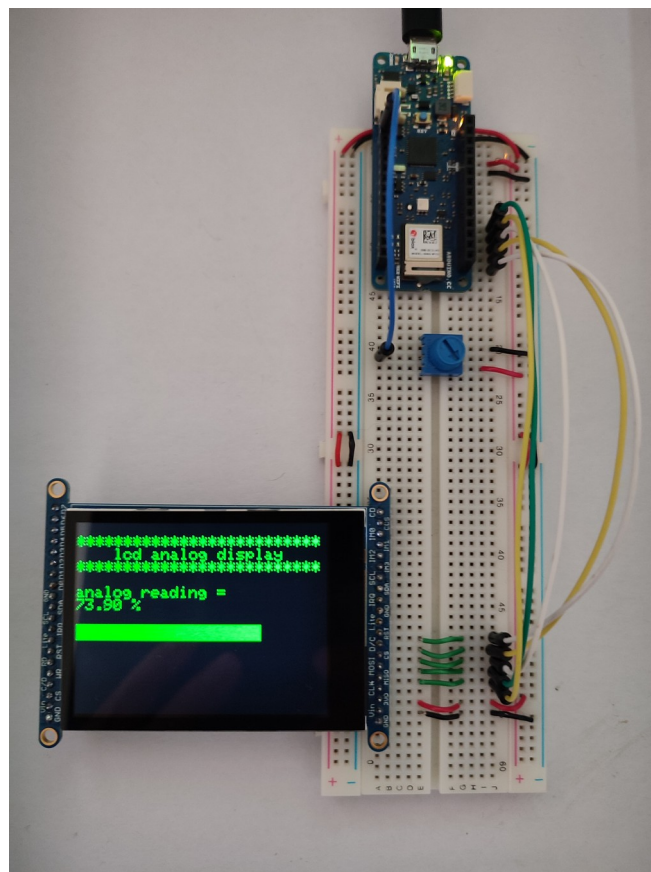

Figure 5 – An example bar graph display on the Arduino MKR WiFi 1010 and Adafruit 2.8" TFT display
- Try outputting the potentiometer values to the LCD screen as a bar graph. You should look to scaling the potentiometer values and using them to create a rectangle3. I would **highly** recommend using pseudocode or other algorithm design methodologies before actually writing the code! Figure 5 shows an example of what this might look like.